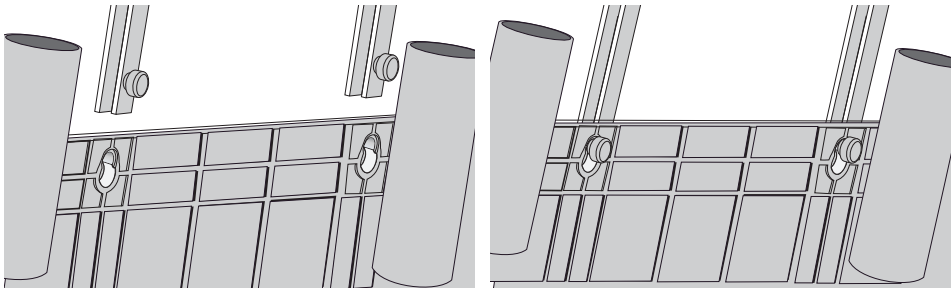

Figure 3
- **If mounting using the Support Brackets:** Face one Bracket so that the circular support knobs are facing the back of the Organizer Body. Fit the knob through one of the keyhole-shaped openings on the Organizer Body and lift up on the Bracket to set in place. (See figure 3) Repeat with second Bracket. The Organizer is now ready to hang.